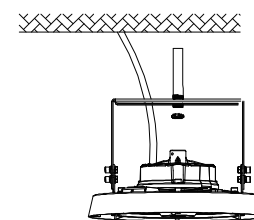

Figure10
3. Re-screw the nuts(Figure10);